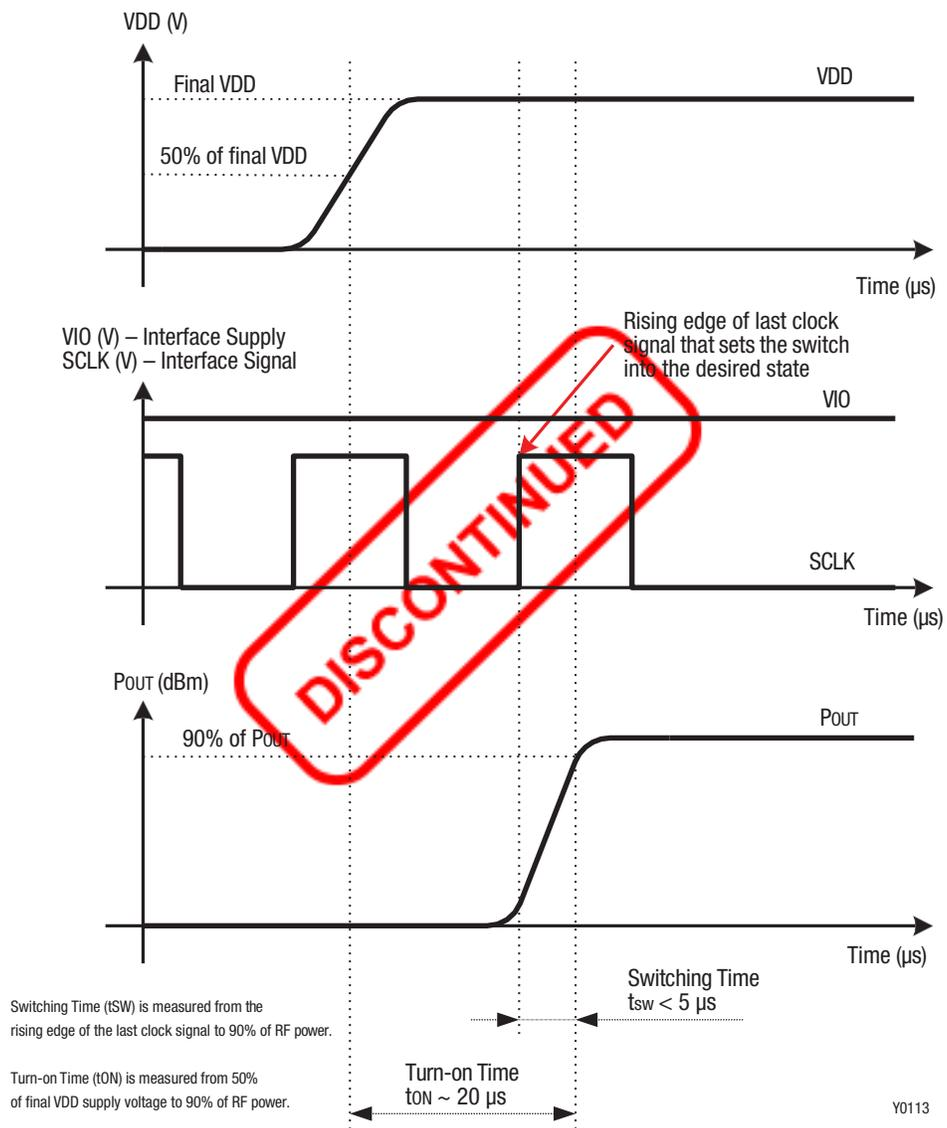

Figure 3. SKY13491-21. Timing Diagram
Figure 3 shows a timing diagram. Figure 4 illustrates the test setup used to measure intermodulation products. This industry standardized test is used to simulate the WCDMA Band 1 linearity of the antenna switch. A +20 dBm Continuous Wave (CW) signal, f_{FUND} , is sequentially applied to the TRX1 through TRX12 ports, while a -15 dBm CW blocker signal, f_{BLK} , is applied to the ANT port.